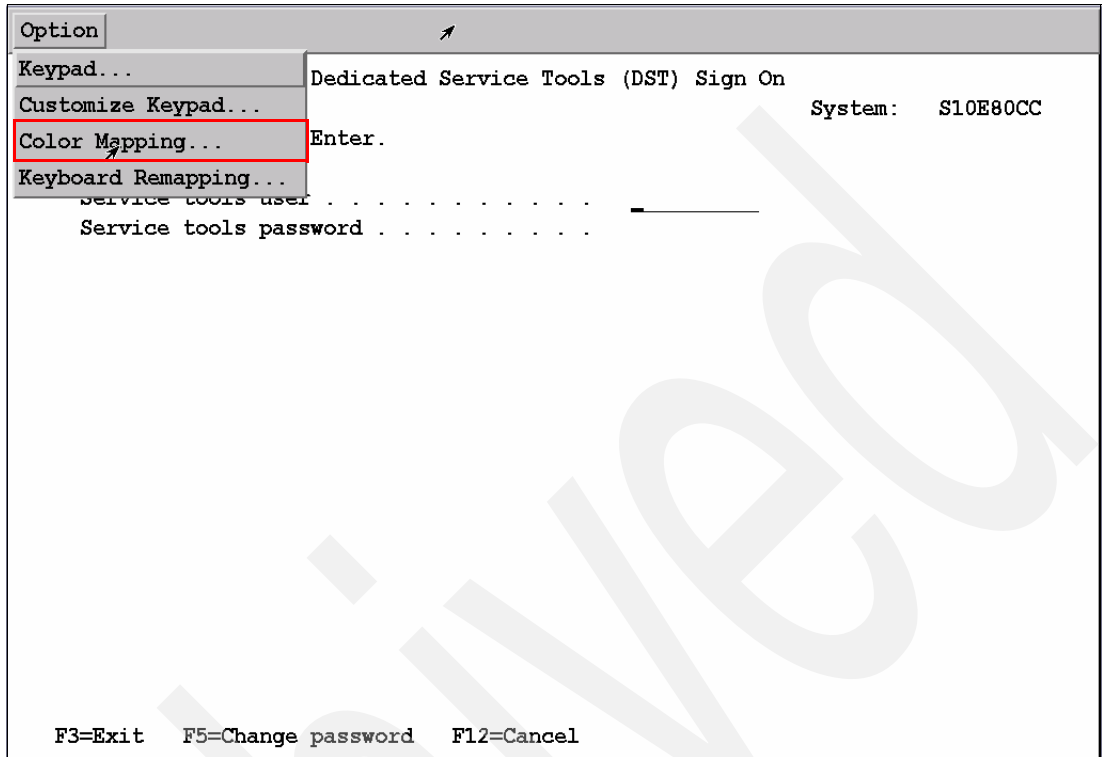

Figure 4-36 5250 Session color mapping
- Restart the 5250 console session for the changes to take effect. After the restart, the Option menu (Figure 4-36) is available in the 5250 session.